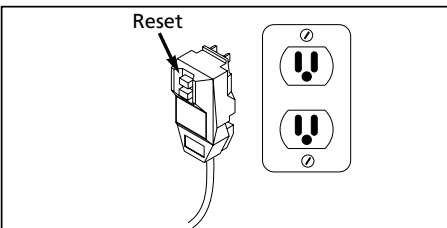

Figure 6 - Grounded plug/reset button
1. Plug the power cord into a grounded 120V outlet and press the reset button as shown in figure 6.